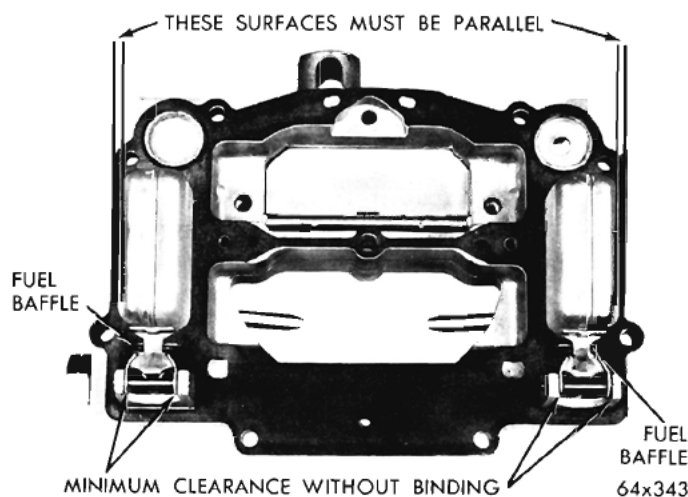

Fig. 9—Measuring Float Alignment
(1) Sight down the side of each float shell to determine if the side of the float is parallel to the outer edge of the air horn casting, as shown in (Fig. 9).
(2) If the sides of the float are not in alignment with the edge of casting, bend the float lever by applying pressure to the end of the float shell with the thumb. **To avoid damage to the float, apply only enough pressure to bend the float lever.**
(3) After aligning the floats, remove as much clearance as possible between the arms of the float lever and the lugs of the air horn. To do this, bend the float lever. The arms of the float lever should be as parallel as possible to the inner surfaces of the lugs or the casting.